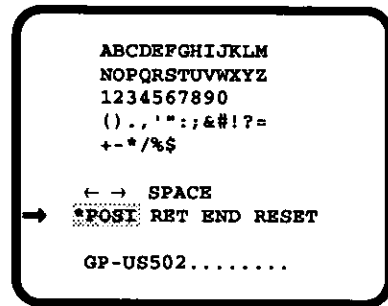

Fig.20.
- Move the character cursor to the " *POSI" position by using the Item Button (ITEM), the Left Button (<) or the Right Button (>) and press the Page Button (PAGE) to display the Camera Identification (CAMERA ID) position menu as shown in Fig.20 and the characters of the Camera ID starts blinking to identify the positioning menu for the operator.